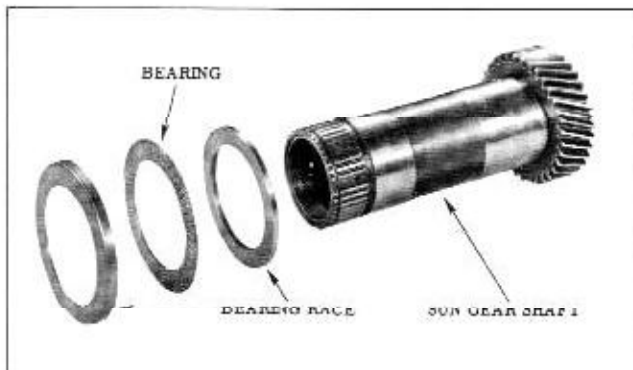

Fig. 3-104 Bearing and Races
15. Install thick bearing race, thrust bearing and the thin cupped bearing race on front sun gear and shaft assembly. (Fig. 3-104)